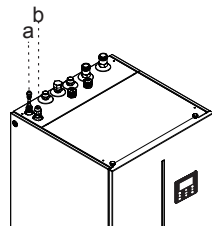

Fig.5-2
- If the indoor unit is matched with outdoor unit (4/6kW), the transfer 9.52-6.35( Refer to the table in Page 8) should be mounted on the refrigerant liquid connection of indoor unit(Refer to Fig.5-2); The transfer is not used in other types of outdoor unit(8/10/12/14/16kW).